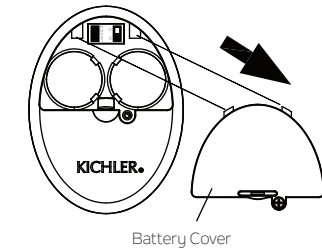

Fig. 25
Step 2. Using a screwdriver, remove the battery cover from the handset and save the screw for later use. (Fig. 25)